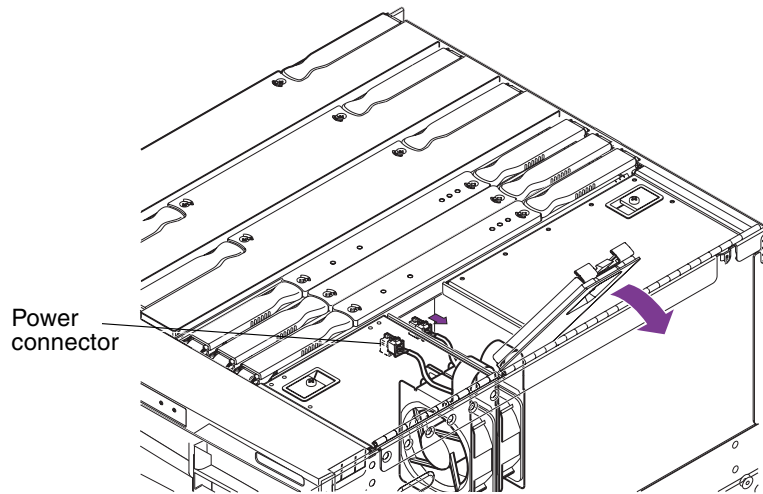

FIGURE 6-10 Identifying the Fan Power Connector
5. Identify the fan to be removed. Disconnect the power connector (FIGURE 6-10).
6. Connect the power connector to the fan (FIGURE 6-10).